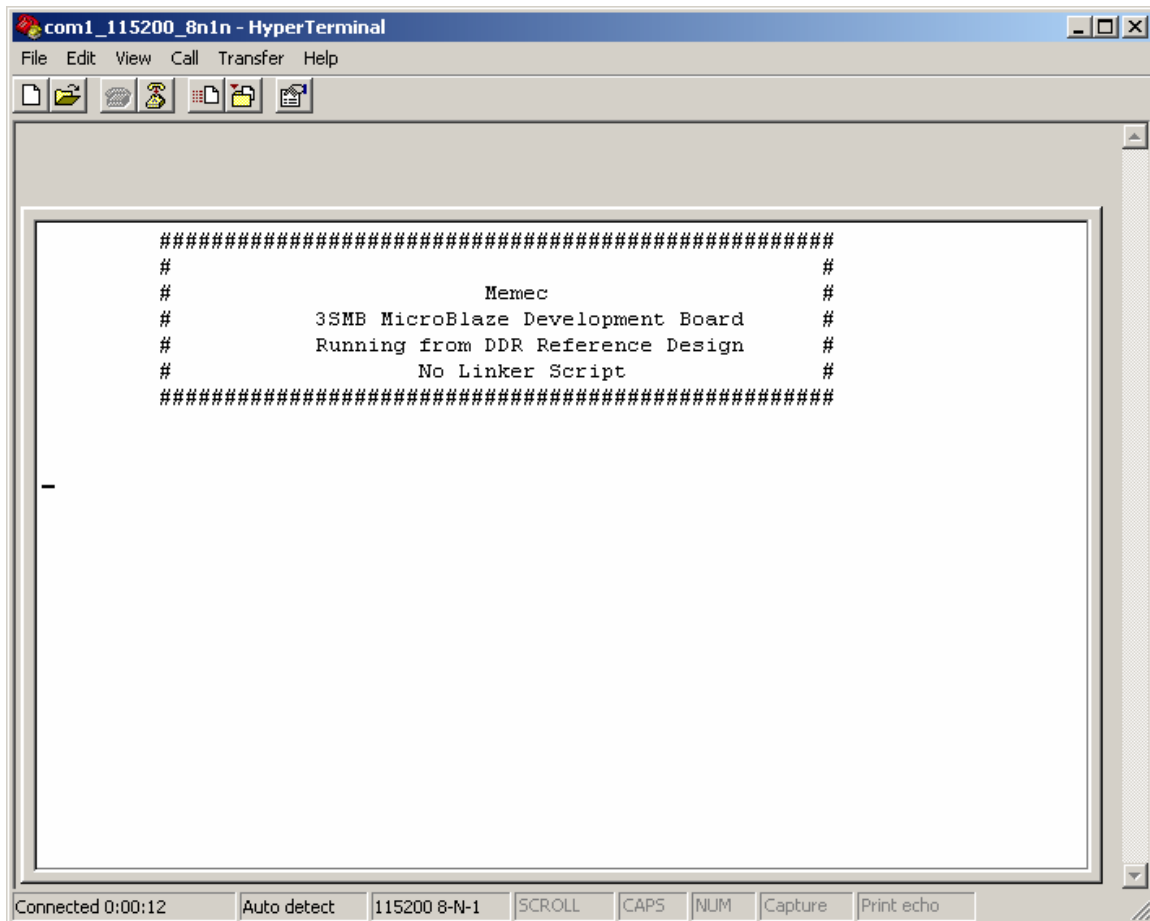

Figure 10 – Running from DDR using Compiler Options
The LEDs on the board should start flashing, and the HyperTerminal output is shown in Figure 10. Do not close the XMD window at this time as it will be used in the next experiment.
6. The LEDs on the board should start flashing as before. However, the text displayed in the HyperTerminal is slightly different as shown in Figure 10.